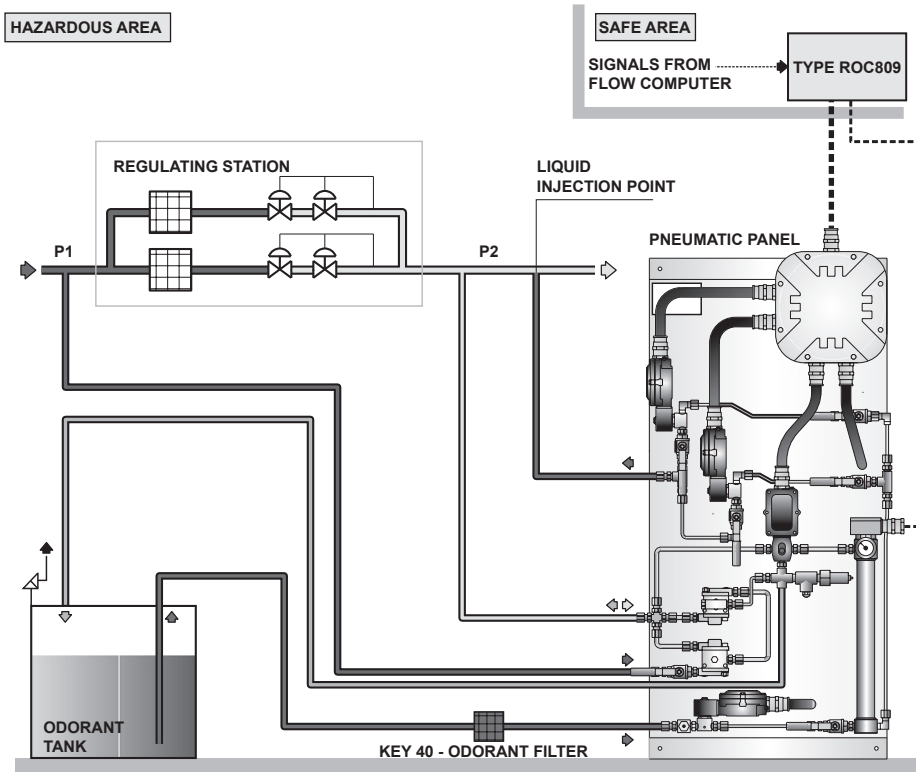

Figure 4. General Installation Schematic
Just to give an idea about different configurations and installation options (see Figures 4 and 5), the following are the most common:
4. Option for odorant storage tank relief to P_2 . If P_2 pressure (refer to Figures 4 and 5) is highly variable or there is excess buildup of pressure in the storage tank due to temperature changes and at the same option 2 is not used, then a simple pressure relief valve may be needed to relieve excess pressure from the storage tank into P_2 stream.